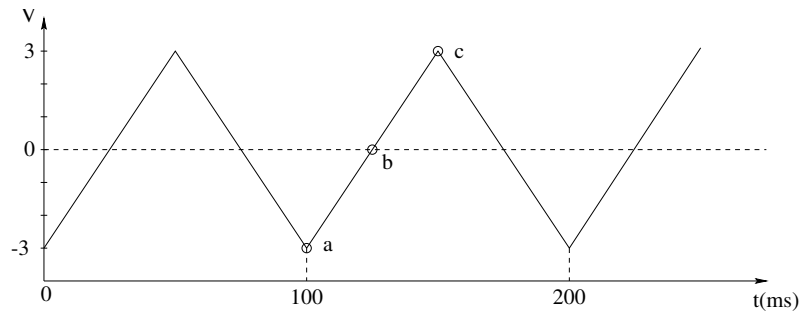

Figure 5: A triangular waveform
2. If necessary, adjust the signal generator amplitude to 3 V and waveform to Triangle (Fig. 5).
where R is the resistance of the large coil, k is a constant, and dV/dt is the slope of the voltage waveform shown in Fig. 5.